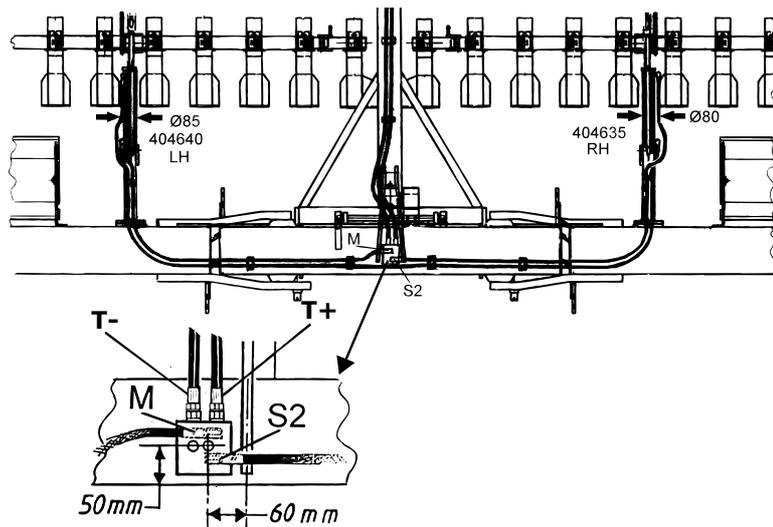

Figure 3.7
- 5 Install the hydraulic cylinders, the cylinder with the larger diameter on the left side with the nipples facing outwards. See "Figure 3.7".